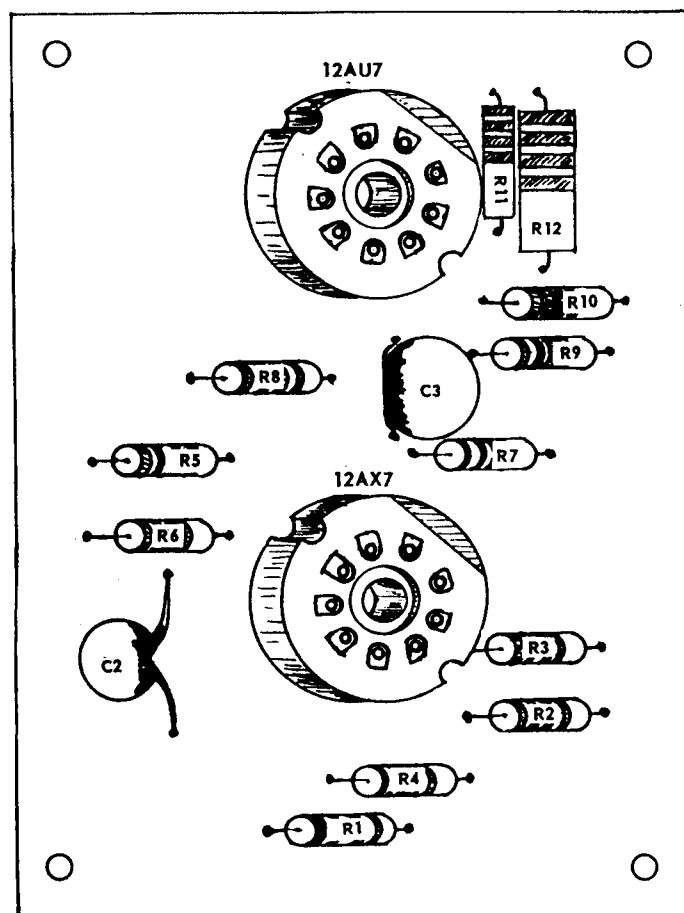

Figure 2. Component Placement on Printed Circuit Board.
- ☐ 7. Connect a yellow wire from pin 7 of the octal socket (SO-7) (S) to pin 7 of the octal plug (PL-6) (S).
- ☐ 8. Connect a yellow wire from pin 5 of the octal plug (PL-6) (S) to the ground lug. (S).
- ☐ 10. Mount the tube sockets in the appropriate holes as in Figure 2. One or two of the pins may be bent slightly to hold the sockets in place. Turn the printed circuit board over on your workbench so the tube sockets are on the bench and the printed-circuit side of the board is up. Solder the tube socket pins to the board, being careful to use enough heat to make a firm joint to the copper of the board, but not enough heat to burn the board. We advise the use of a small pencil type soldering iron.